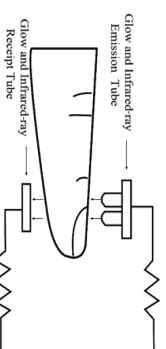

Figure 1: Principle
- Please ensure that the User's nails are not so long as the device does not fit as shown in Figure 1.
- Fingers that are too thin or cold may affect the accuracy of the measurements. If this happens use a thicker finger or thumb and ensure that they are inserted far enough into the device as shown in Figure 1.
Principle of the Pulse Oximeter is as follows: A formula of data processing is established taking use of the Lambert Beer Law according to Spectrum Absorption Characteristics of Reductive Hemoglobin (Hb) and Oxyhemoglobin (HbO2) in glow & near-infrared zones. Operating principle of the Pulse Oximeter: Photoelectric Oxyhemoglobin Inspection Technology is adopted in accordance with Capacty Pulse Scanning & Recording Technology, so that two beams of different wavelengths of lights can be focused into the human finger through a perspective clamp finger-type sens or as illustrated in Figure 1. The measured signal is obtained by a photosensitive element and calculated electronically with the results showing on the device screen.